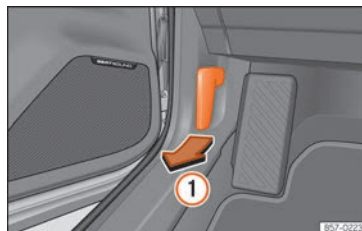

Fig. 208 Release lever in the driver's footwell area.
- Open the door and pull the lever under the dashboard »» Fig. 208 ①.